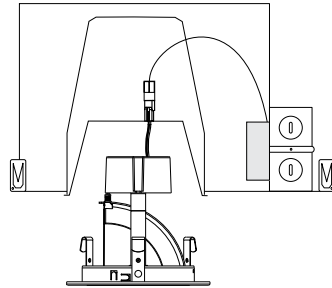

Figure 4
1. Connect orange female connector to male connector and ground wire of the fixture to housing. (See Fig. 4)